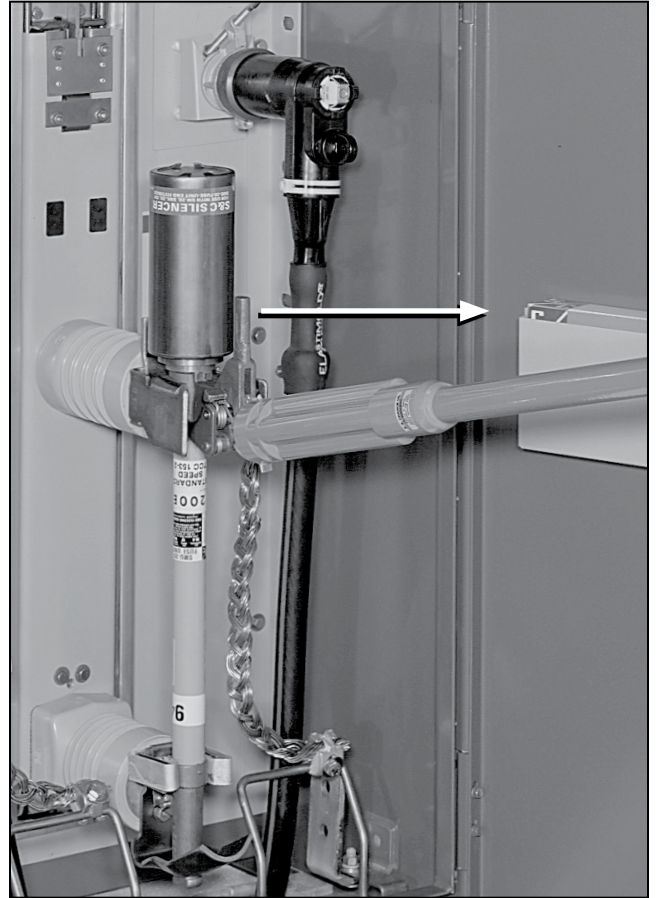

Figure 20. Pull on the fuse assembly by locating the ring of the stick in the opening below the pull-ring
- STEP 4.** Verify the fuse is properly latched in the fuse mounting. While holding the shotgun stick, push against the fuse holder assembly and pull on the fuse assembly as shown in Figure 20 by locating the ring of the stick in the opening below the pull-ring.